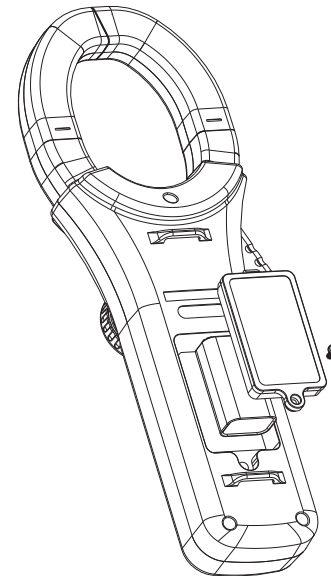

Figure 10
X. Maintenance and upkeep (See Figure 10)